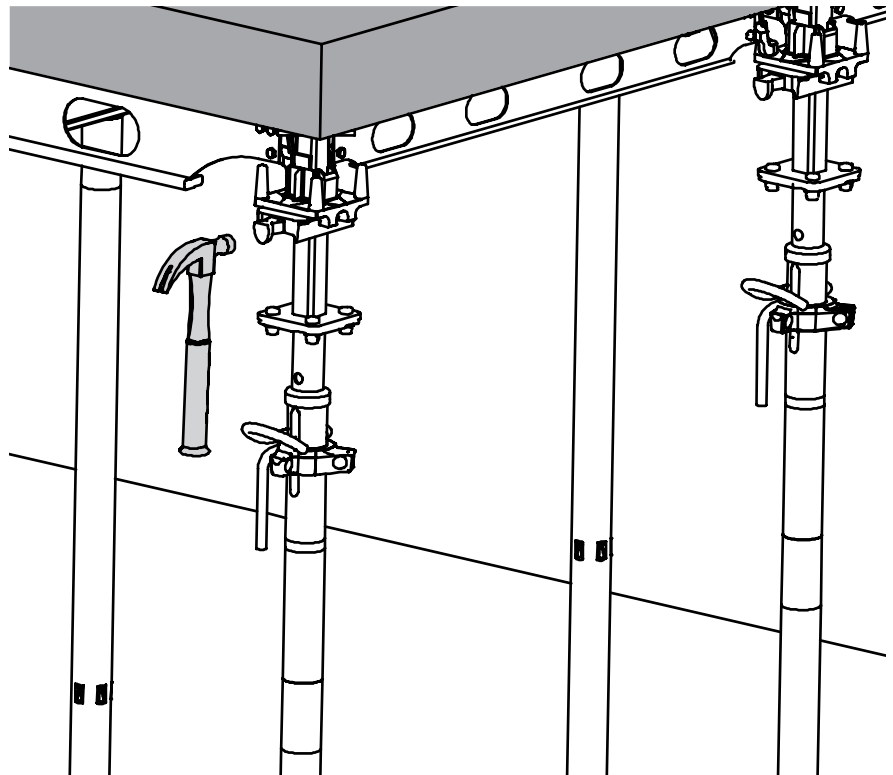

Fig. A11.01
1. Strike the drophead wedge with a hammer. (Fig. A11.01)